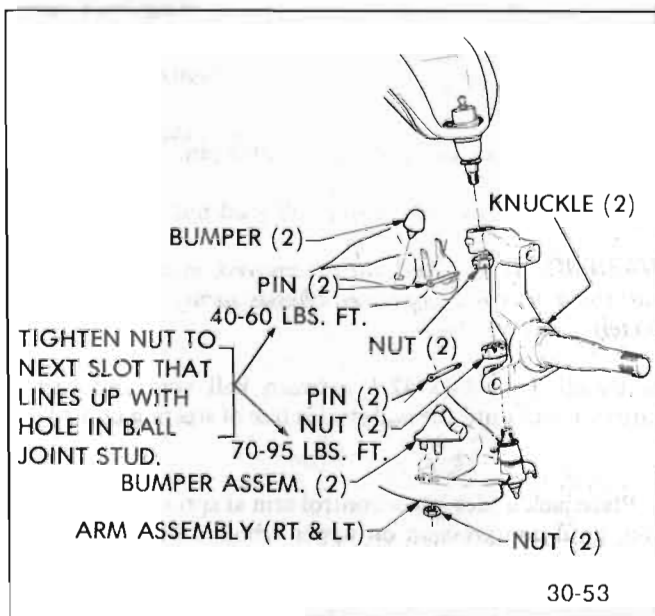

Figure 30-14 - Steering Knuckle Detail
5. Support lower control arm and remove nuts from ball joint tapered studs. Raise upper control arm and remove tapered studs from knuckle. Remove steering knuckle. See Figure 30-14.